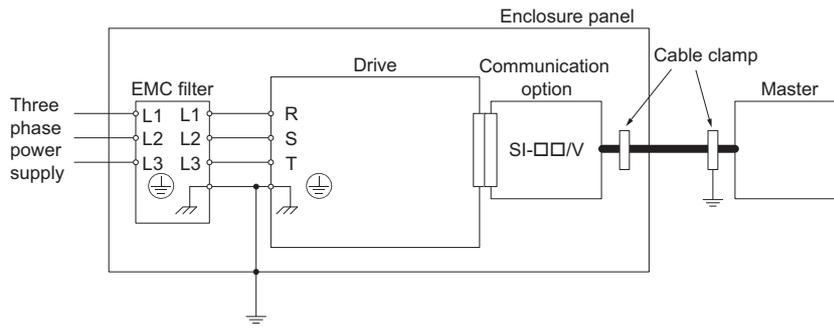

Figure 26 Option Installation for CE Compliance
2. Keep wiring as short as possible. Ground the shield according to Figure 26.